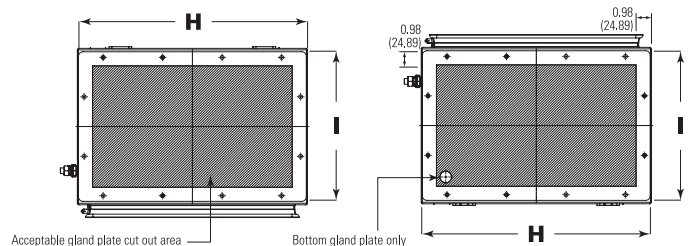

Figure 2 - Gland plate dimensional drawing
1. Select a mounting location that will provide suitable strength and rigidity for supporting the STE main breaker and all components. Only stainless-steel hardware with suitable strength should be used for mounting. Install two (2) bottom mounting screws loosely.
2. Align enclosure with the two (2) slotted mounting feet on installed screws. While continuing to support the enclosure in position, install the top two (2) screws and tighten the bottom two (2) screws. Securely torque all screws around enclosure before removing support.
3. Remove gland plates and drill desired conduit entries in accordance with the spacing chart for Myers™ hubs (under Technical Data section) and the gland plate dimensional drawing (see Figure 2).